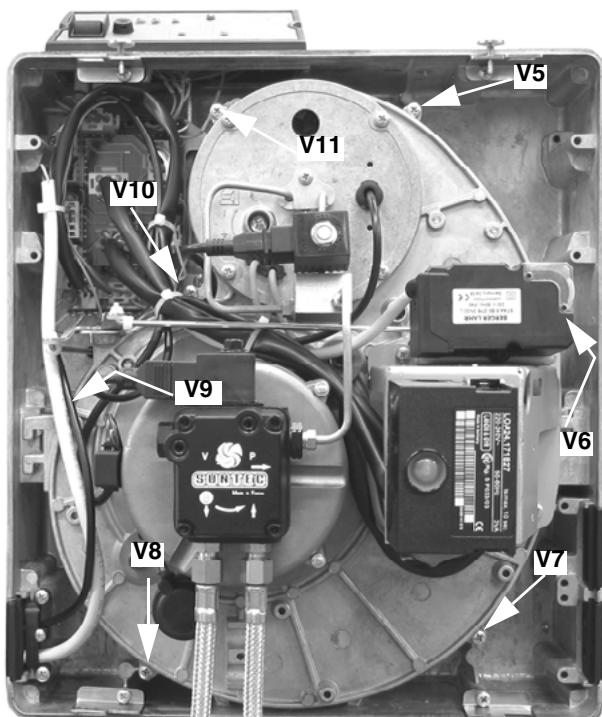

Fig. 56
- Remove the 7 screws **V5 - V11** which fasten the components plate (Fig. 56).
- Reassemble burner components plate and tighten the 6 screws **V5 - V11** (Fig. 56).